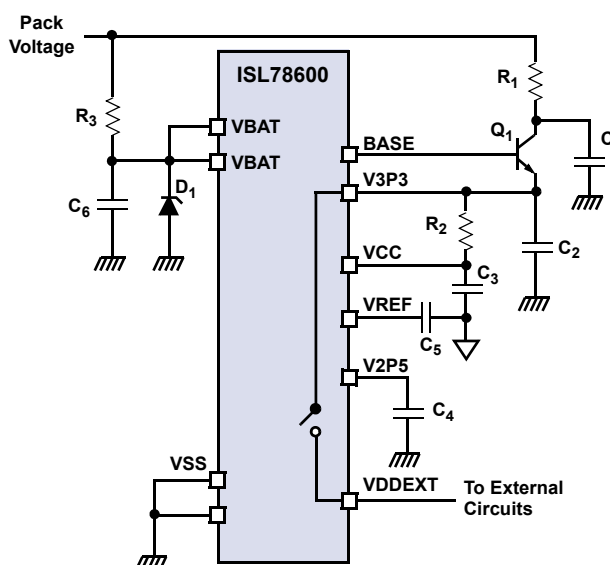

Figure 45. ISL78600 Regulator and External Supply Arrangement
The ISL78600 main low voltage regulator uses an external NPN pass transistor to supply 3.3V power for the V3P3 and VCC pins. This regulator is enabled whenever the ISL78600 is in Normal mode and can also be used to power external circuits through the VDDEXT pin. An internal switch connects the VDDEXT pin to the V3P3 pin. Both the main regulator and the switch are off when the part is placed in Sleep mode or Shutdown mode (EN pin Low.) The pass transistor's base is connected to the ISL78600 BASE pin. A suitable configuration for the external components associated with the V3P3, VCC, and VDDEXT pins is shown in Figure 45.
Table 6. Component Selection for Circuit in Figure 45
**Table 6. Component Selection for Circuit in Figure 45 (Continued)**